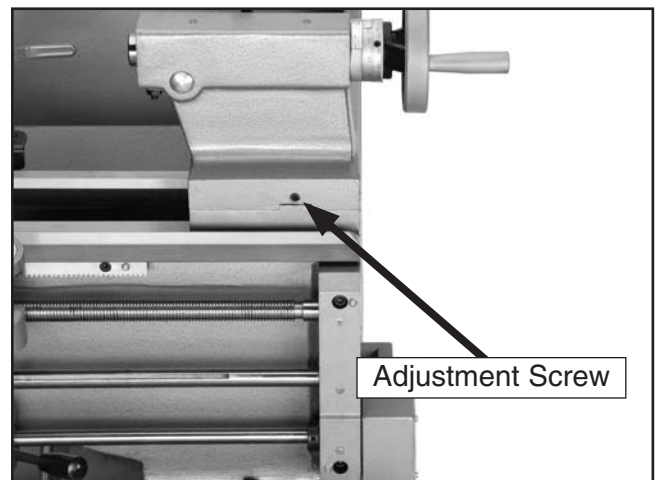

Figure 41. Tailstock adjustment locations.
- Loosen the tailstock lock lever and adjust the tailstock offset by the amount of the taper by turning the adjustment screw (**Figure 41**). Turn another 0.010" off of the stock and check for taper. Repeat as necessary until the desired amount of accuracy is achieved.